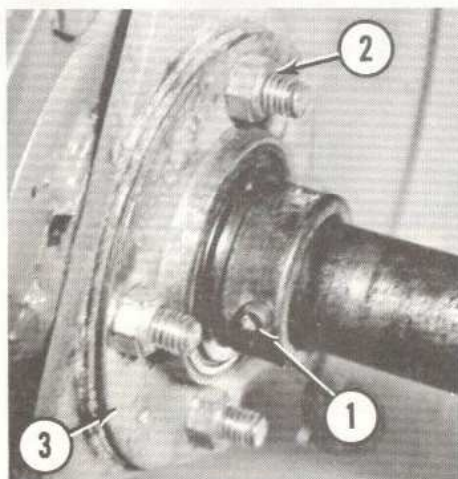

FIG. 46
3. Loosen allen setscrew (1) in locking collar, Fig. 46, and turn collar in opposite direction of shaft rotation to loosen.
4. Remove four nuts (2), Fig. 46, and remove outer bearing flange (3), Fig. 46. Clean shaft with emery cloth before removing bearing. Shaft must be free of burrs or nicks.